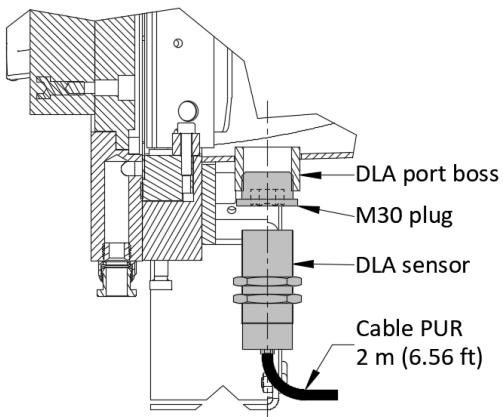

Figure 1– DLA Sensor Installation
2. Remove the M30 plug from the DLA port located on the bottom of the isolation valve (Figure 1). Retain the plug for future use.